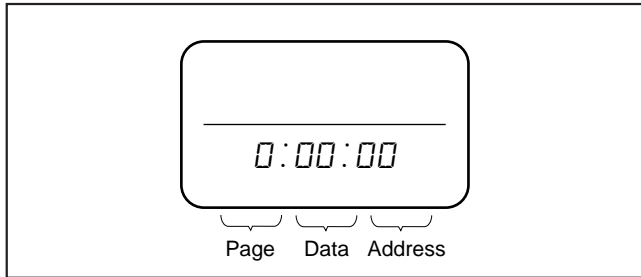

Fig. 5-2-1
- 3) Turn on the power with the ON/STANDBY switch of the unit. If it has been properly connected, the LCD on the adjusting remote commander will display as shown in Fig. 5-2-1.